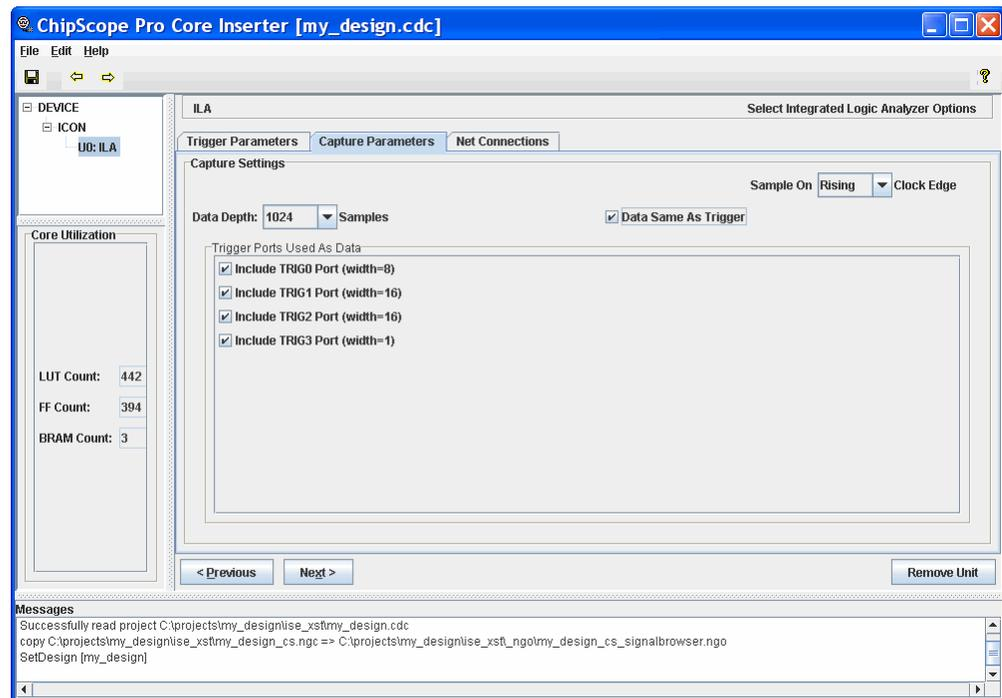

Figure 3-14: ILA Core Data Same As Trigger Parameters
- Data Same as Trigger (Figure 3-14)